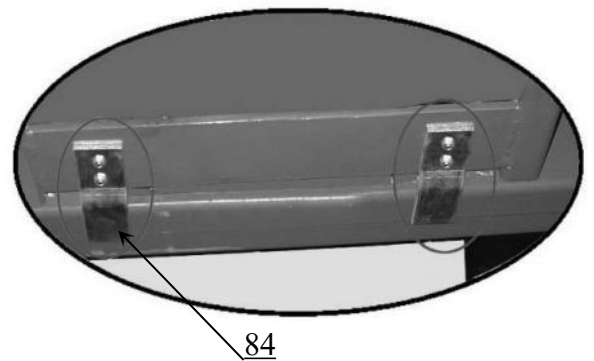

Fig.37
P. Install Drive-in ramp, Tire stop plate, Platform locking plates, Steel ball set, Limit rod (See Fig. 37).